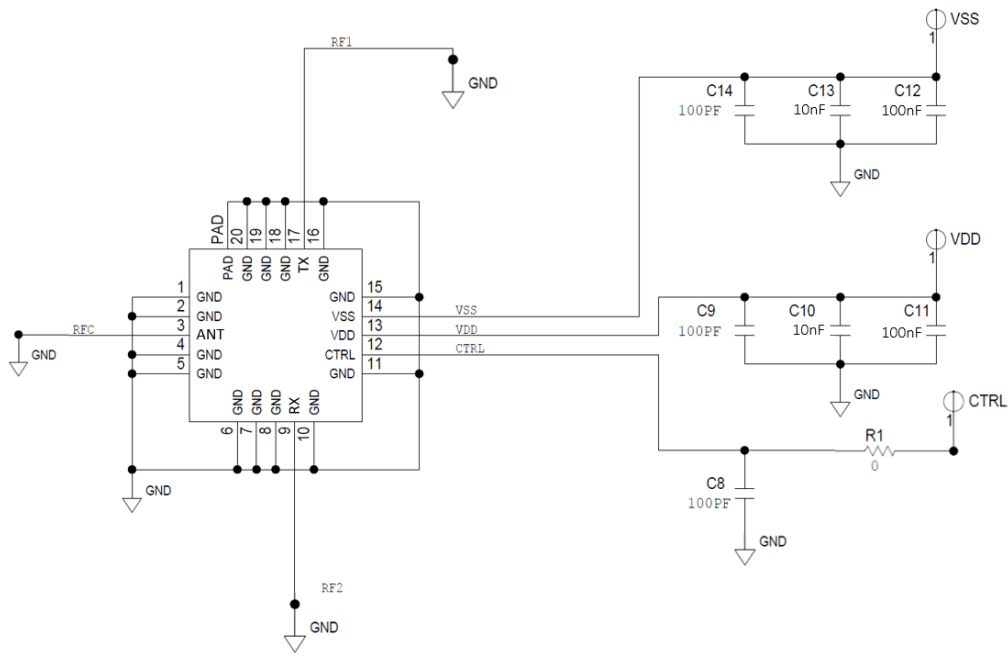

Figure 21. Simplified Application Circuit
One control port is connected to the CTRL test points. There are provisions for the resistor capacitor (RC) filter to eliminate dc-coupled noise, if needed by the application. The ADRF5141-EVALZ evaluation board schematic is shown in Figure 21.